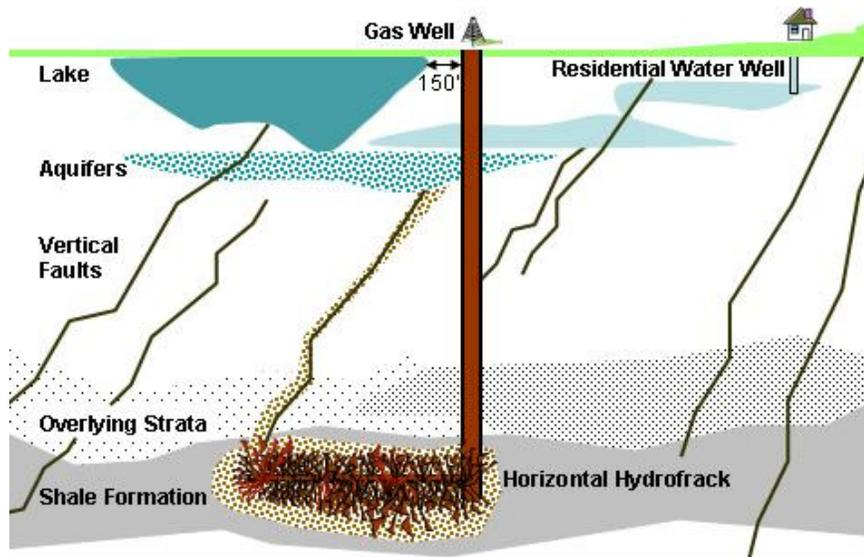

Figure 1.
3. Volume of Fracking Fluids – Since the fracked area itself can be quite extensive, the amount of fracking fluids in a shale gas well can exceed a million gallons. That is equivalent to about fifty (50) residential swimming pools; or by weight, approximately 2,500 automobiles. Based on the volume of fluids moved, the fracking of a shale formation amounts to a massive water bomb. Since the lighter fracking chemicals separate out of the frack water, they are more likely to show up as pollutants in aquifers and ground water. This explains their presence in water wells near active shale gas wells.
4. Migration of Gas into Aquifers – The fact that the fracked area of a well is horizontal and of a considerable length simply increases the odds that some vertically and inclined faulting or localized faulting will be encountered (Figure 1). Since shale has relatively low permeability, the well has to be fracked repeatedly in order for it to continue to produce. Such multiple fracks simply increase the odds that the gas will either go out of zone via faulting, or out of the well bore via faulty casing. In either case, area ground water and aquifers are vulnerable to be polluted, first, by escaped natural gas, and subsequently, by fracking fluids, including toxic chemicals such as benzene, which will separate out of the frack water over time.